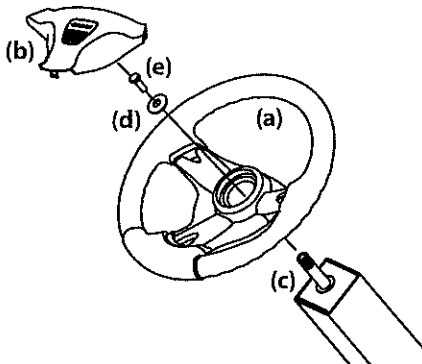

Figure 2-7
1. Remove the hardware for attaching the steering wheel (a) from beneath the steering wheel cover (b). Carefully pry off the steering wheel cover (b) to remove the hardware. See Figure 2-7.
2. With the wheels of the tractor pointing straight forward, place the steering wheel (a) over the steering shaft (c). See Figure 2-7.
3. Place the Belleville washer (d) over the steering wheel (a) and secure with the hex screw (e). See Figure 2-7.
4. Place the steering wheel cover (b) over the center of the steering wheel (a) and push downward until it "clicks" into place. See Figure 2-7.